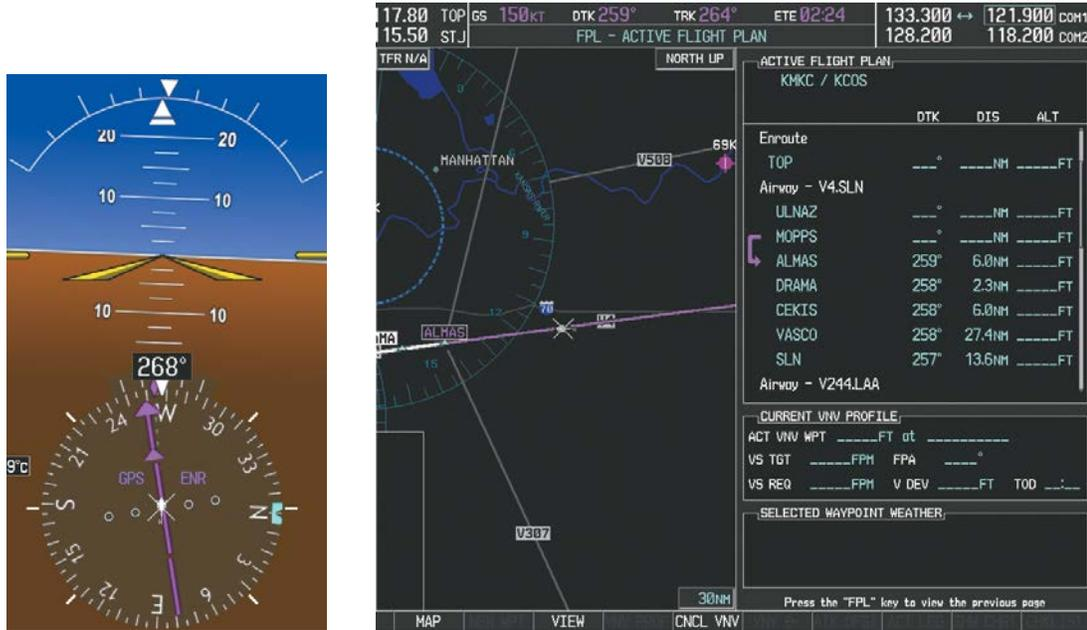

Figure 5-121 Turn on to Active Leg
7) As the CDI approaches center, the aircraft turns onto the active leg as seen in Figure 5-121.